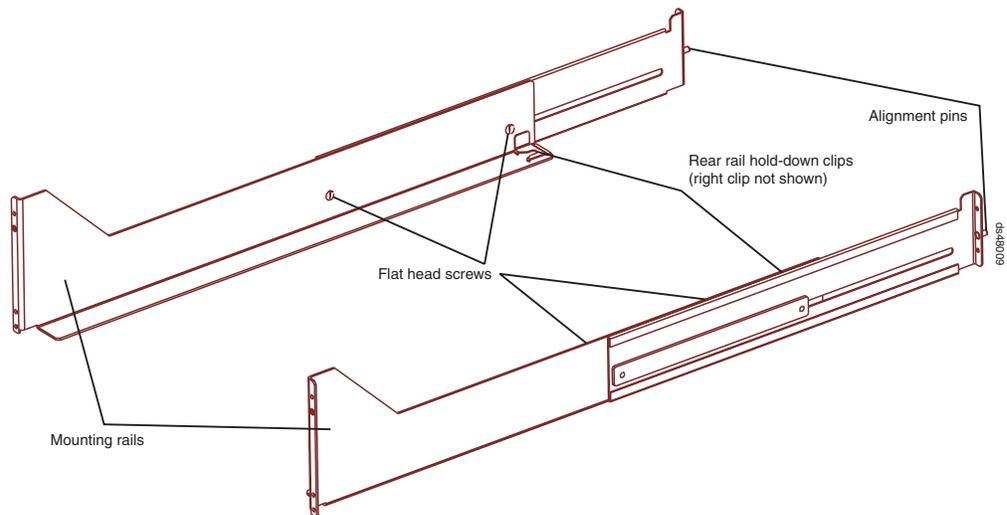

Figure 14. DS4800 support rail assembly
Figure 14 shows the support rail assembly for the DS4800.
**Note:** Refer to Figure 14 while performing these steps.
6. Starting with the left rail, use a medium flat-blade screwdriver to loosen the two flat-head rail adjustment screws. See Figure 14 on page 30.
**Attention:** When you slide the storage subsystem into the cabinet, verify that the back of the DS4800 Storage Subsystem is secured by the hold-down clips located at the back of each rail. With the M5 rail screws loosely threaded, you can make minor adjustments to the rails to ensure that the subsystem latches in the hold-down clips. The hold-down clips are shown in Figure 14 on page 30.